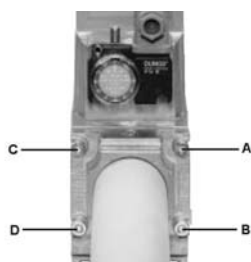

Fig. 9
1. Loosen screws A and B **do not** unscrew (Fig. 9 - Fig. 10).
2. unscrew screws C and D (Fig. 9 - Fig. 10).